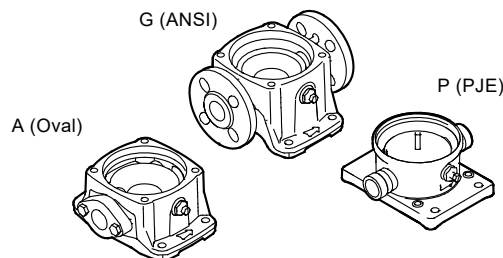

Fig. 53 Pump connections
- oval flange (NPT), fig. 53
- ANSI flange, fig. 53
- PJE coupling, fig. 53